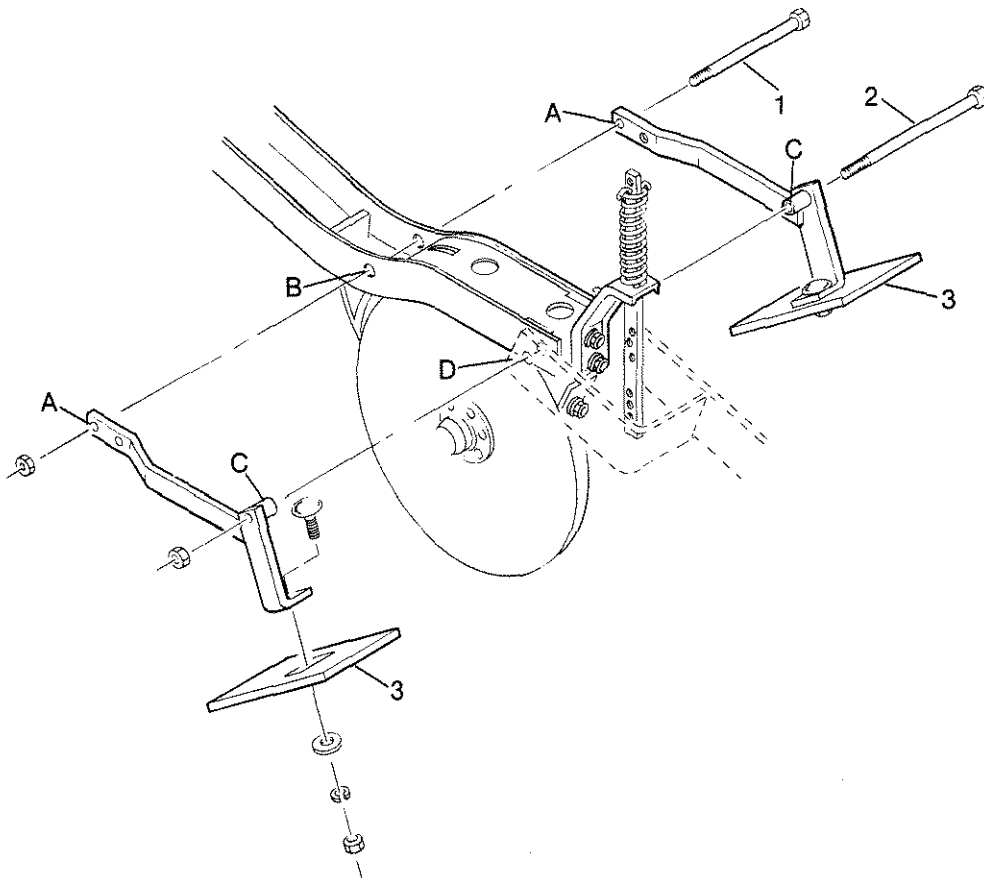

Figure 2
1. Line up front hole (A) of left and right Scraper Arms to front hole (B) and attach to Opener Arm Assembly with $\frac{3}{8}$ " x $4\frac{1}{2}$ " long bolt (1) and hex lock nut.
2. Remove $\frac{3}{8}$ " x $4\frac{1}{2}$ " long Press Wheel Arm retaining bolt (2) from hole (D). Refer to figure 2.
3. Re-align Press Wheel Arm and rear hole of Scraper Arm (C) to hole (D) of Opener Arm Assembly. Attach with new size $\frac{3}{8}$ " x $6\frac{1}{2}$ " long bolt (2) and hex lock nut. DO NOT OVER TIGHTEN, PRESS WHEEL ARM MUST MOVE FREELY ON OPENER ARM ASSEMBLY.
4. Attach Outside Scraper (3) to Scraper Arms as indicated in figure 2. Align and secure.